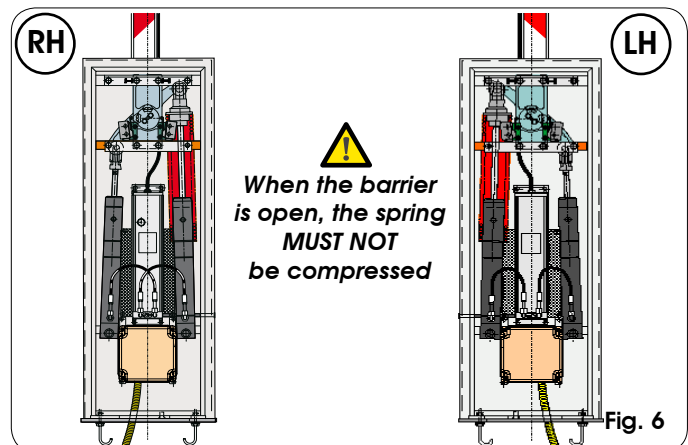
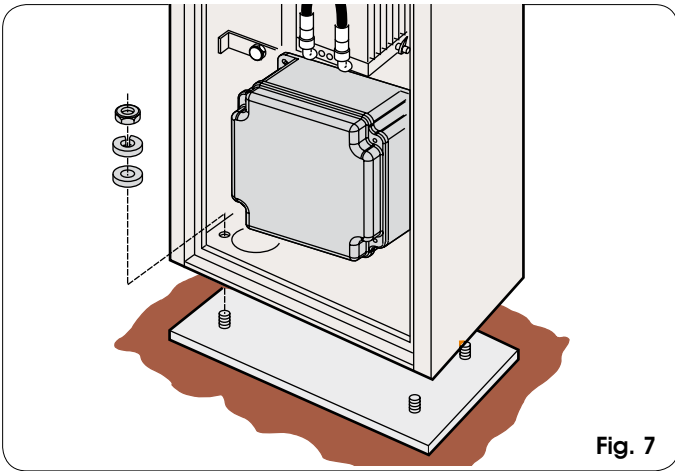

Fig. 6
Fig. 7
- 1) Fasten the upright on the foundation plate using the four supplied nuts (fig. 7) and checking the configuration of the barrier as in figure 6. Remember that the hatch of the upright should normally face the building.